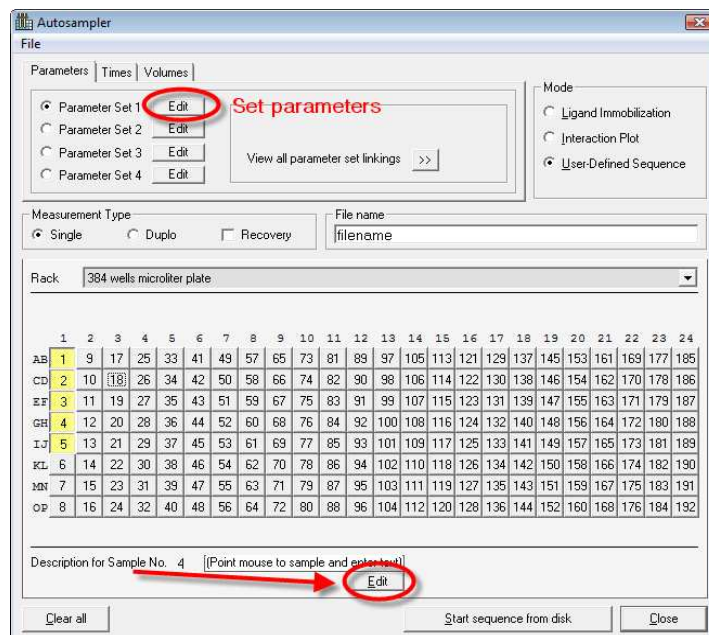

Figure 3.24 – The tab sheet 'Parameters'.
- In the right upper corner of the autosampler window, select the ligand immobilization mode. To define the sample positions, first select the sample definition in the lower right corner of the window and then select the position on the microtiter plate. The selected positions will appear in yellow. To edit the parameter settings, click on the Edit button next to the parameter set under the parameter tab. (Figure 3.24)